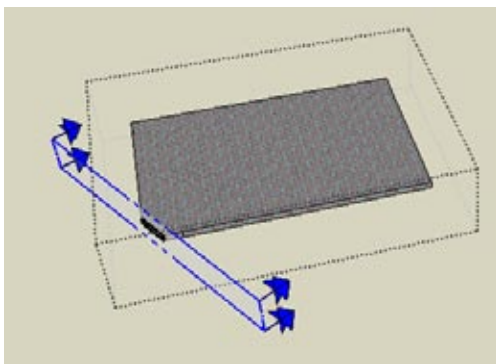

Figure 11-68
14. For the last scene, open the plaza group. Spice things up by using a diagonal section plane (Figure 11-68).